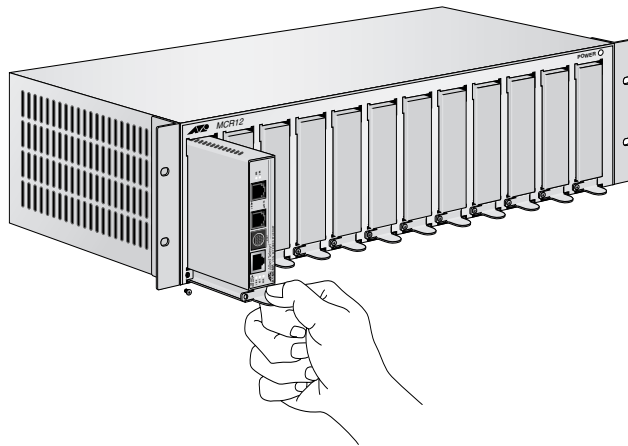

Figure 14 Rack Mount - Set in Rack
2. Then, set the slider in the chassis, as shown in Figure 14.